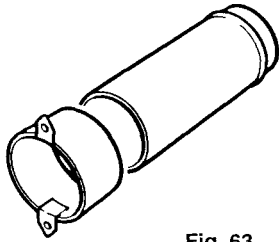

Fig. 63
4. Remove the wall liner from its packing and remove the end piece (Fig. 63).